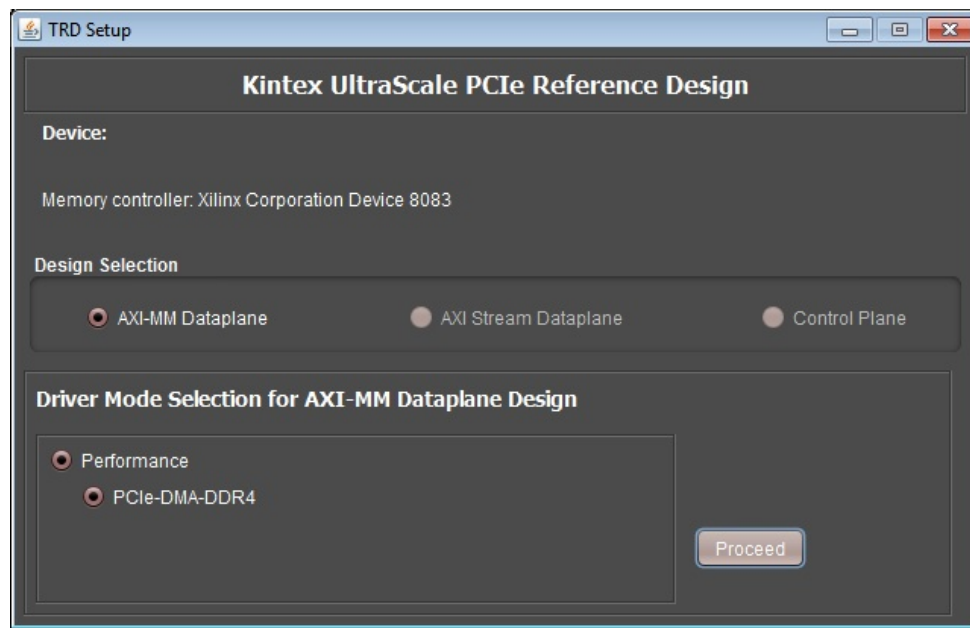

Figure 3-8: TRD Setup Screen with a PCIe Device Detected
3. The TRD setup screen is displayed (Figure 3-8) and indicates detection of a PCIe device with an ID of 8083, an AXI-MM dataplane design selection, and a Performance/PCIe-DMA-DDR4 driver mode selection. Click **Install** and the drivers are installed. This takes you to the Control and Monitoring GUI as shown in Figure 3-12, page 28.